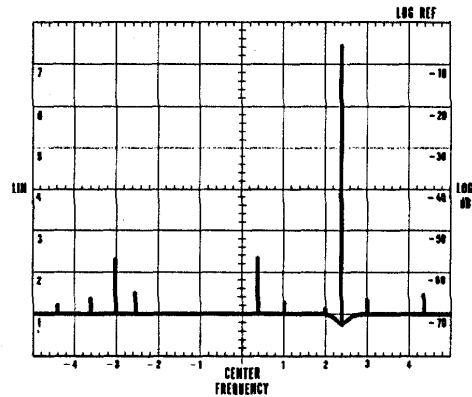
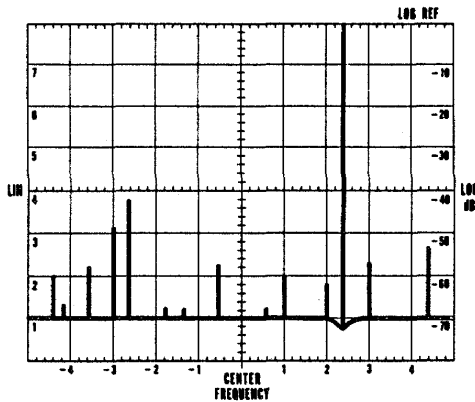

Figure 3-5a.
Figure 3-5b
- 20 Note signal display similar to Figure 3-5a. Decrease INPUT ATTENUATION to 30 dB. Note display similar to Figure 3-5b. Note that some signal levels increased more than 10 dB. The input mixer is being overdriven (see Mixer Diode Characteristics, paragraph 3-13).
27 Signals shown in Figure 3-5b (mixer overdriven) are as follows: